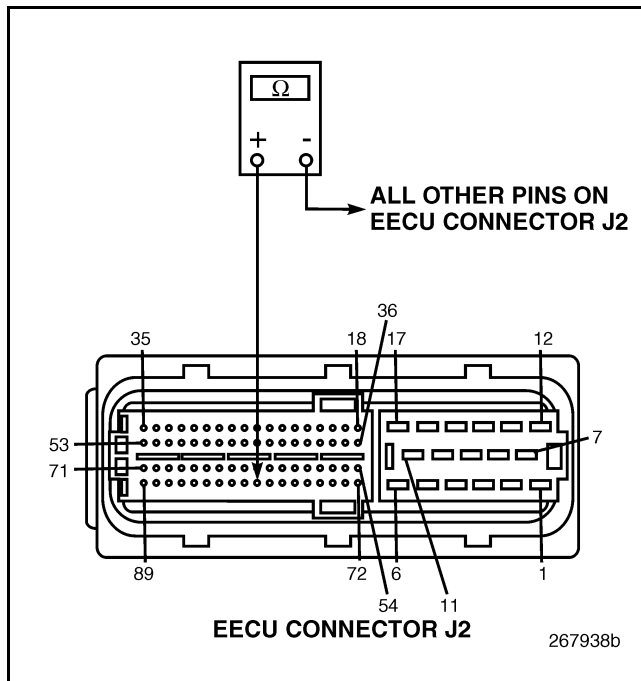

Figure 217
4. Check for continuity between EECU harness connector J2 pin 80 and all other pins on EECU connector J2 (see Figure 217).